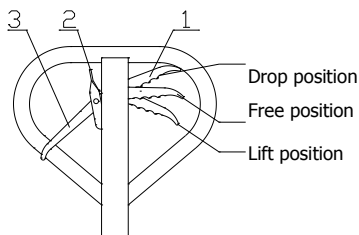

Fig. 5
4.1 After the truck is assembled, try to rock the hand grip and operate different positions of control handle knob 1 to examine the lifting, free position and dropping and check that whether the different positions are normal or not. See fig 5.
5.4 See fig 5, when hand knob 1 is placed on the free position, the truck will travel. At this time, if you rock the hand grip, the truck will neither lift nor drop. Then, you can use the truck to move the cargo.
5.5 See fig 5, when the hand knob 1 is placed on
5.6 See fig 5, when the hand knob 3 is placed below, the truck will be in a state of free walking.
5.7 See fig 5, when the hand knob 3 is placed above, the truck will be in a state of brake.
5.8 See fig 5, hand knob 2 is used for release brake.